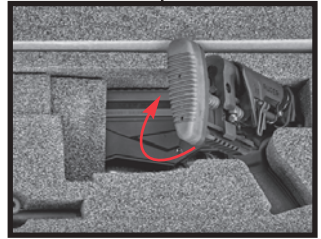

Figure 5
2. Lift butt stock (rotate 90° upward). See Figure 5.